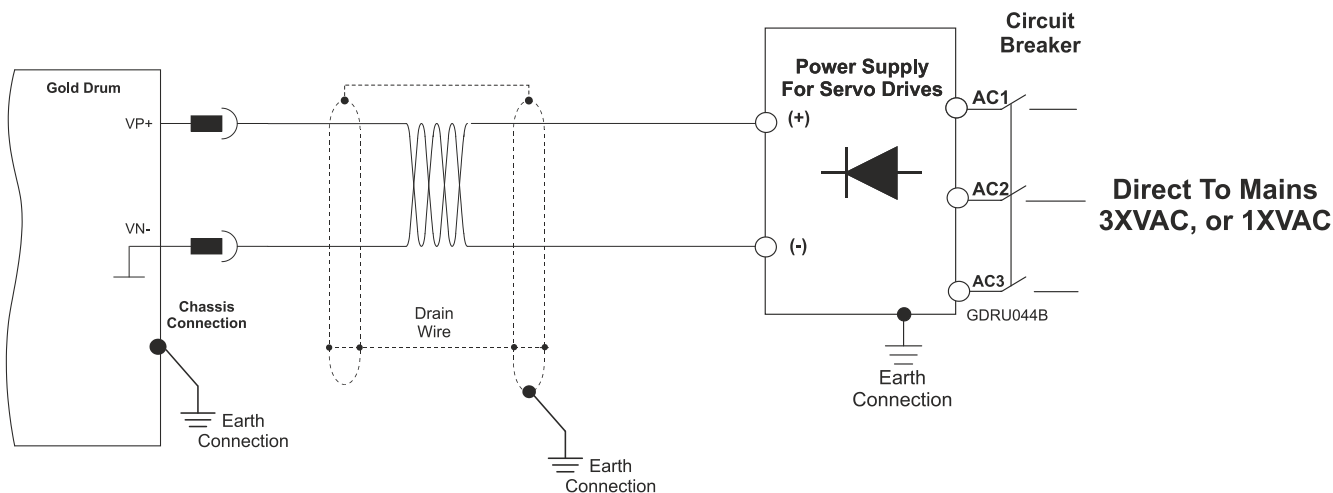

Figure 11: Non-Isolated from the Mains DC Power Supply connection
- In the **Non Isolated** Connection ( direct to Mains) the **VN-** terminal **MUST NOT** be connected to "Earth Connection"(PE) (Figure 11).